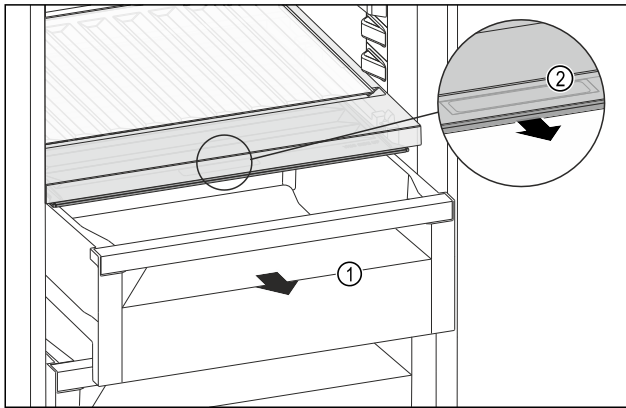

Fig. 173
- Pull out the drawer Fig. 173 (1).
- Grasp the recessed grip Fig. 173 (2) on the compartment lid and pull the compartment lid forwards at the same time.